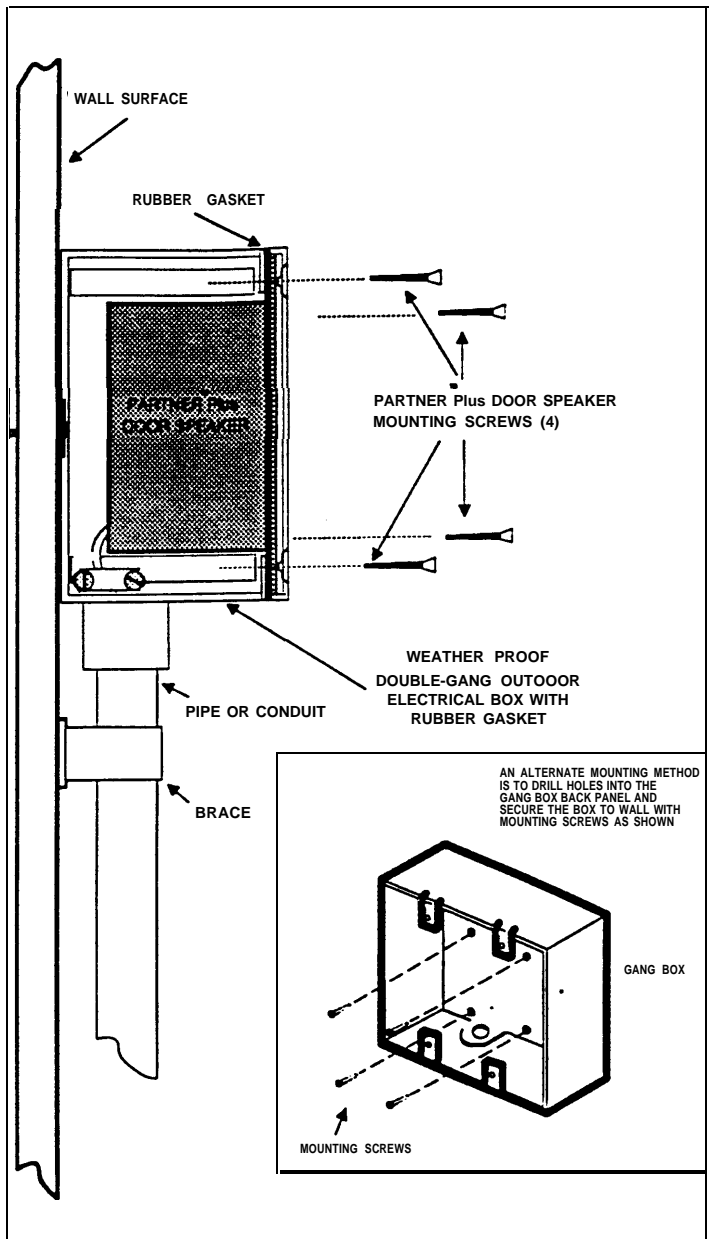

Figure 2-2. Surface Mount Installation
The PARTNER™ Plus Door Phone can be mounted to virtually any type of surface or wall. Those surfaces that are too hard or difficult to cut through require the unit to be surface mounted (device installed so it is completely external to the wall surface). Wall surfaces such as wood or drywall often are hollow and allow wiring to be run within the wall. Mounting the PARTNER™ Plus Door Phone unit to non-solid surfaces is often preferred because the unit can be flush mounted so only the face plate is exposed. Refer to Figures 2-2 and 2-3 for surface-mount and flush-mount double-gang outlet box installations.
There are two surface mount methods to secure the PARTNER™ Plus Door Phone gang box to a wall. The first method utilizes mounting brackets. The gang box mounting brackets (included) can be screwed to the gang box back plate so they protrude out the sides of the gang box. Using the appropriate screws (depending on the material the wall is made of), position the screws through the bracket holes and using a screwdriver secure the gang box to the wall surface (see Figure 2-2).
Another method to attach the gang box to the surface of a wall, which is more secure and provides an aesthetically pleasing look, is to drill mounting holes (4) directly into the back of the gang box. Using the appropriate screws (depending on the material the wall surface is made of) position the screws through the inside of the gang box and using a screwdriver secure the gang box to the wall (see Figure 2-2).